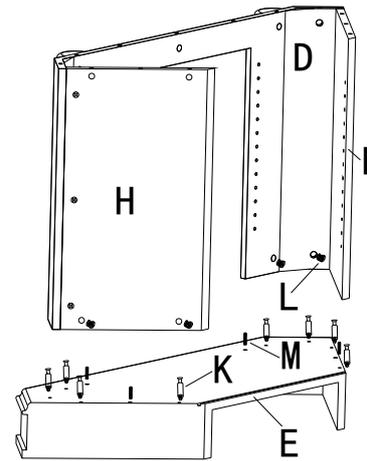

Figure 2
2. Put 8 Cam Dowels (K) and 4 Wood Dowels (M) onto Base (E), and place Underside Panel (D) and Left & Right Panel (H) assembly onto Base (E). Then put 8 Cam Locks (L) onto Left & Right Panel (H) and Underside Panel (D), and fix them with a manual screwdriver. (Figure 2)